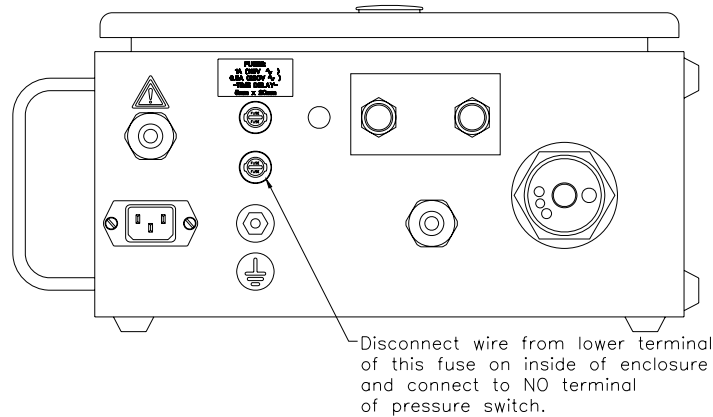

Figure 5
3. Disconnect the wire from the bottom of the lower fuse and connect to the normally open terminal of the pressure switch shown in Figure 5. Leave the other end of this wire connected as is.
4. Connect wire supplied with pressure switch from COM terminal of pressure switch to lower end of bottom fuse shown in Figure 5.